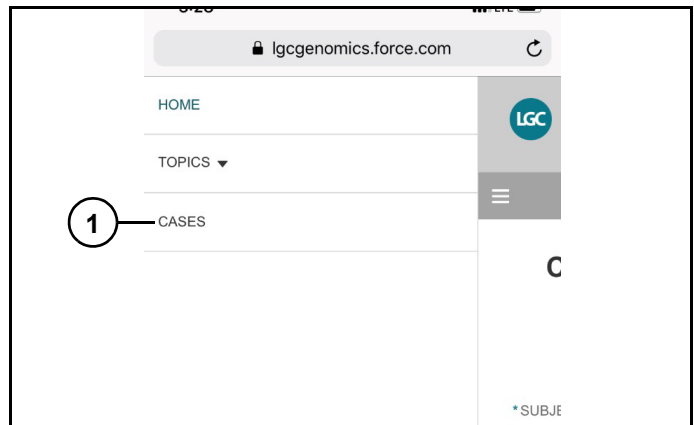

Figure 17
1. Select "Cases" (1) (Figure 17).